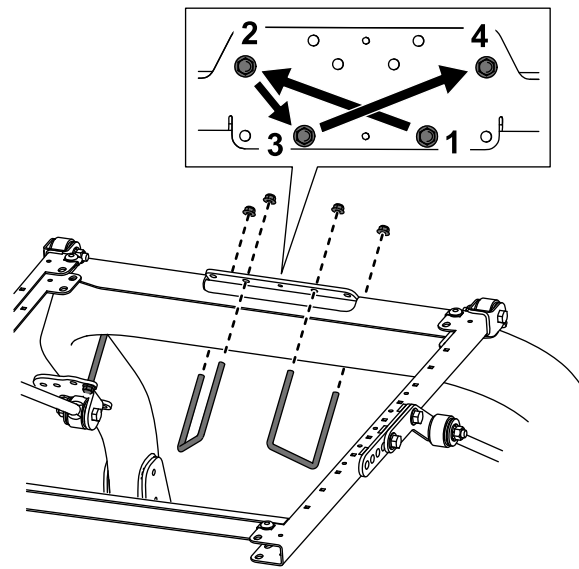

Figure 2
- To ensure even distribution, tighten the nuts in an alternating pattern as shown in Figure 2.